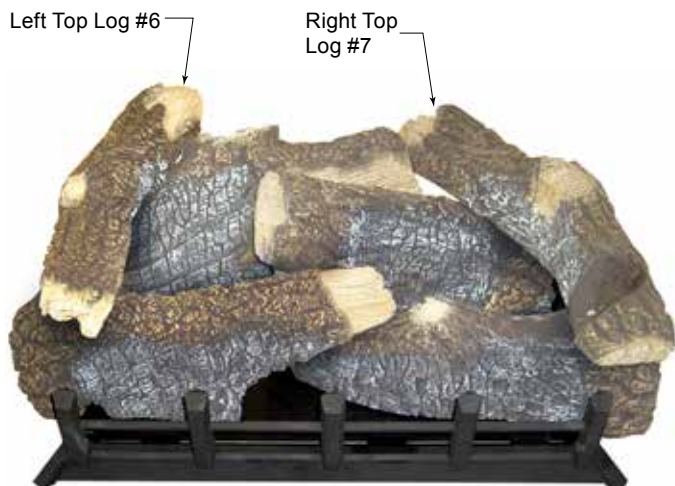

Figure 38
6. Place top left log (#6) on left rear log (#4) and left front log (#5) using locating grooves on bottom of #6 and locating blocks on logs #4 and #5. *Figure 38*
7. Place right top log (#7) on right rear log (#3) and right front log (#2) using locators on the bottom of log #7 and locators on logs #2 and #3. *Figure 38*